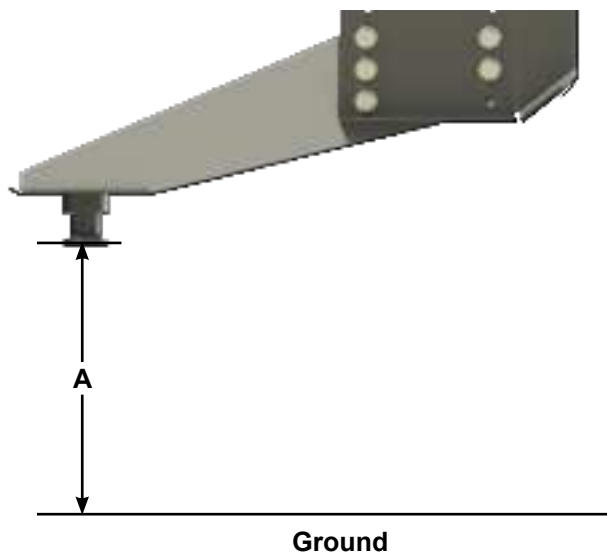

Fig.2
2. Measure from the ground to the bottom of the kingpin plate on the current pin box. Record this dimension as A (Fig.2).